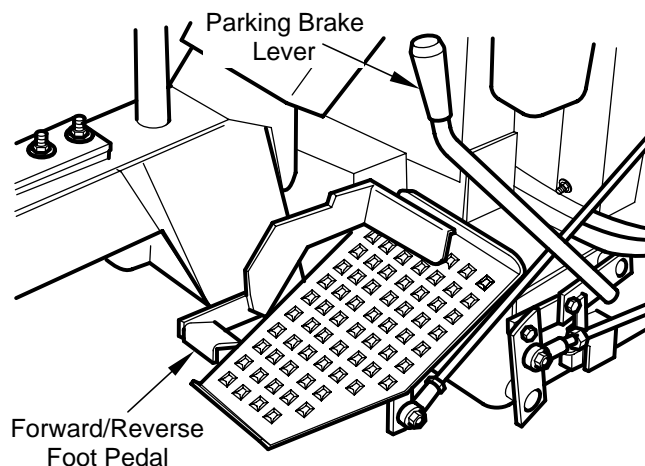

Figure 4-2
3. **Parking Brake Lever (Figure 4-2):** Used to engage and disengage the parking brakes. Pull the lever backwards to engage the parking brake. Push the lever forward to disengage the parking brake.
1. **Forward/Reverse Foot Pedal (Figure 4-2):** Used to select the travel direction of the mower. Pressing the pedal forward moves the mower in the forward direction. Pressing the pedal backwards moves the mower in the backward (reverse) direction.